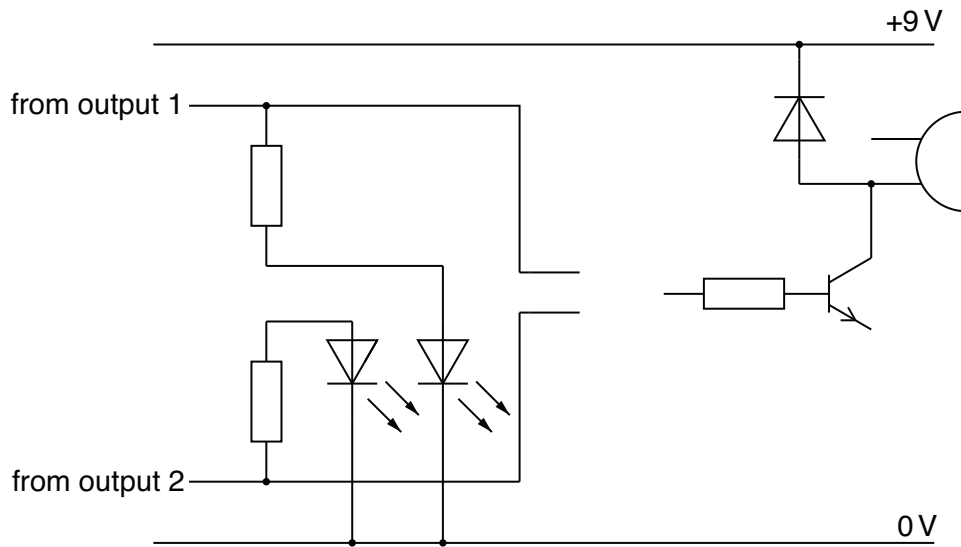

Fig. 19
- (c) On Fig. 19 add a suitable logic gate and complete the connections to show how either output can operate the buzzer.